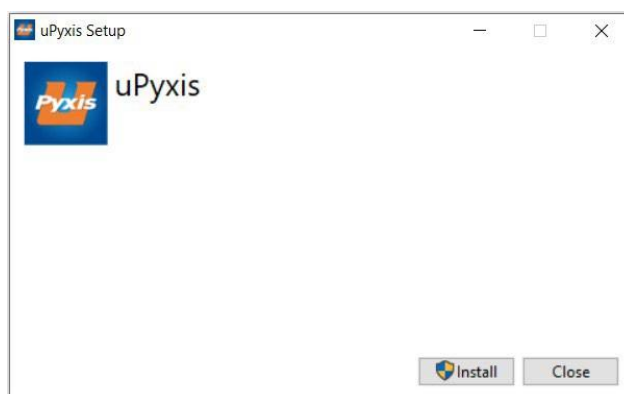

Figure 13. uPyxis® Desktop App installation
3. On **uPyxis®** Desktop App, click Device→ **Connect via USB-Bluetooth** (Figure 13).
4. If the connection is successful, the ST-724/ST-725/728 and its Serial Number (SN) will be displayed in the left pane of the **uPyxis®** window.